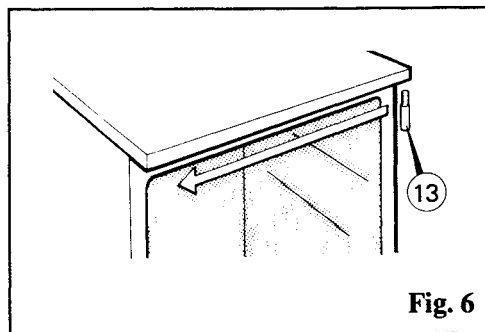

Fig. 6
Unscrew the upper hinge pin (13) see Fig. 6 (using a screwdriver if necessary) and transfer it to the opposite side).